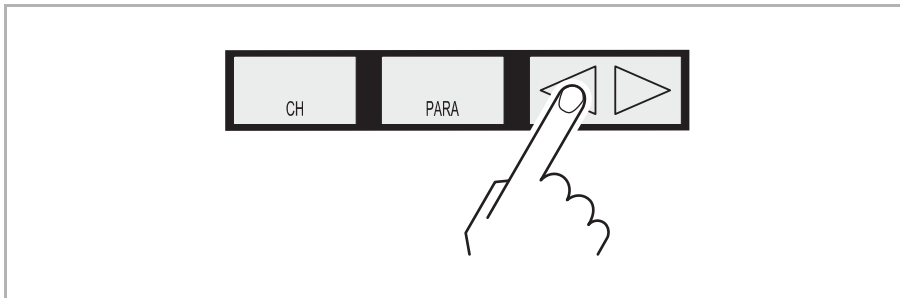

Fig. 4-5 Press the DOWN button for 1 second
- 2 Keep the DOWN button pressed for approximately 1 second. See Fig. 4-5, 31.